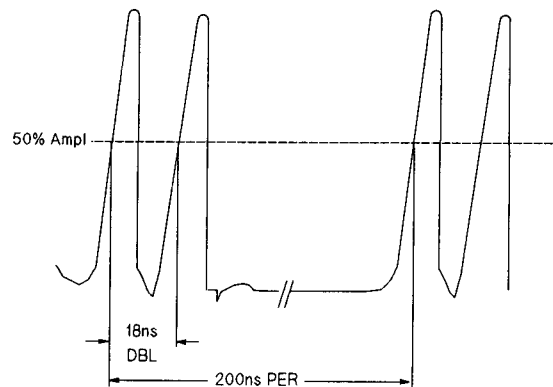

Figure 9-5. Double Pulse Adjustment
23. The typical DELAY (DBL) range characteristic is similar to that shown in Figure 9-5.
33. Press **Autoscale** and adjust A2R13 for 18 ns ± 0.3 ns at 50% of amplitude. See Figure 9-5.
14. On the oscilloscope press **Autoscale** and adjust A2R8 for $10\text{ ns} \pm 0.2\text{ ns}$ at 50% of amplitude. See Figure 9-5.